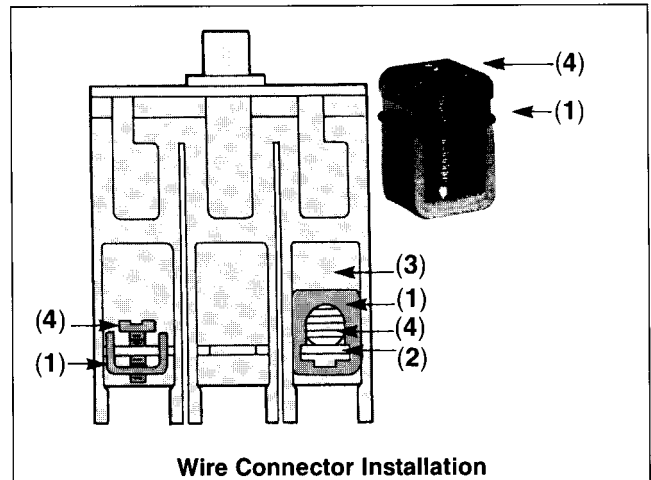

Figure 1
- A. Place terminal connector body (1) onto breaker tab (2) in terminal cavity (3) (Figure 1).
- C. Hold in place while tightening set screw (4) with a screwdriver or hex wrench on TA1E6125. See Table for proper wire size selection and screw tightening torque.